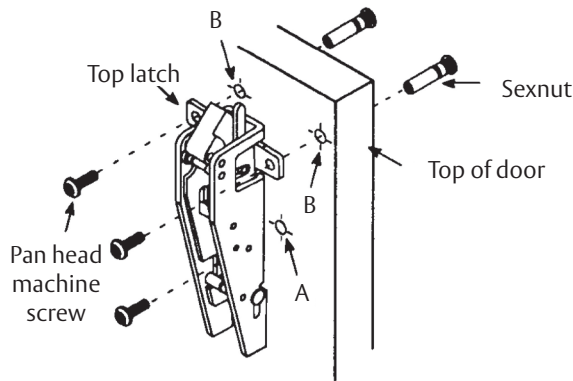

Figure 10
2. Install bottom latch using two (2) pan head machine screws and two (2) sexnuts in holes marked **B** and one (1) pan head machine screw or tapping screw in hole marked **A**. (Figure 10)